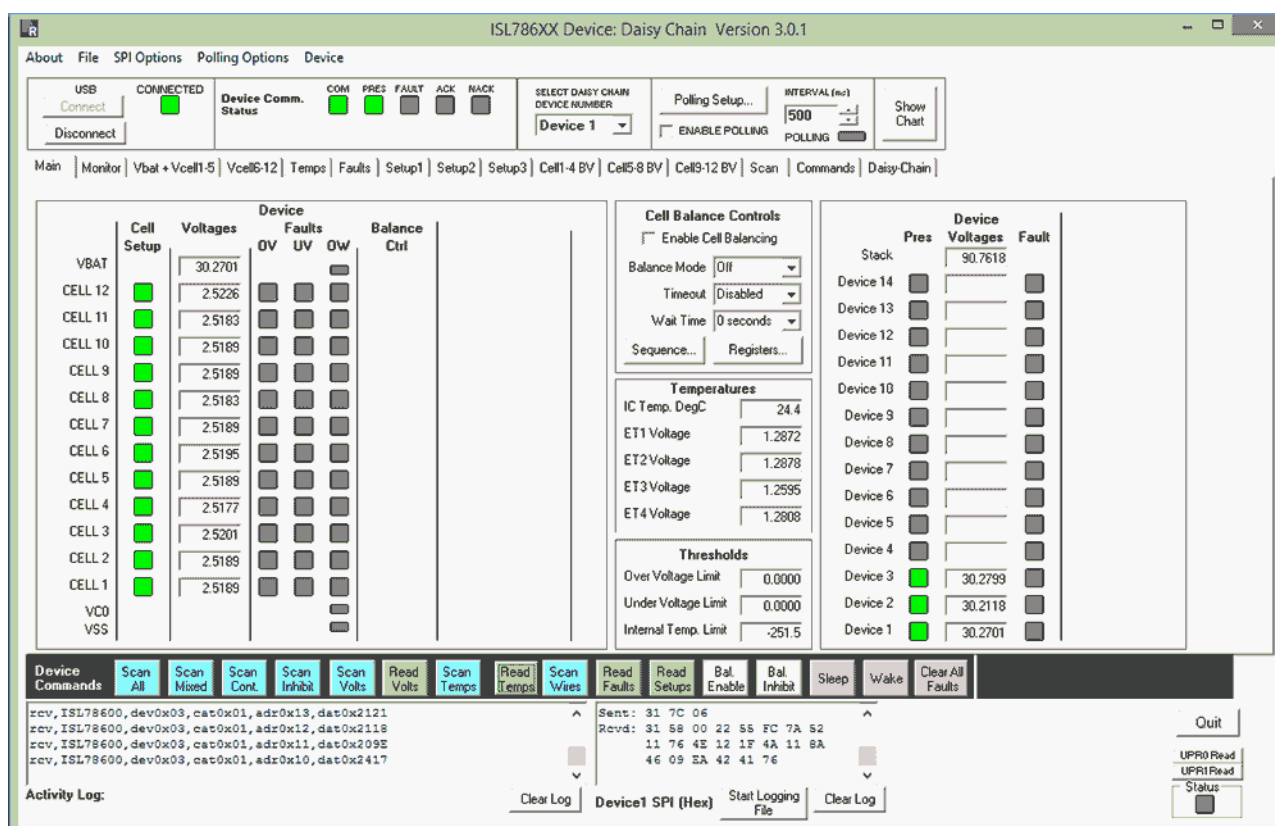

Figure 11. Main GUI Window - Three Cascaded Devices
- The **Device Commands** buttons along the bottom of the main tab are commands sent to all boards in the system. So, selecting **Scan Volts** then **Read Volts** causes all boards to read the cell voltages and temperatures and update the ISL78600 register values and the GUI display boxes. (Note: These buttons send separate commands to each board. It does not send a Scan All or Read All command), see Figure 11.
The Main window (See Figure 11) of the GUI provides an overview of the various voltages in the battery pack. The voltages and associated fault indicators shown on the left and the temperature values and limits in the middle reflect results of voltage and temperature scans for the device selected in the Select Daisy Chain Device Number box.